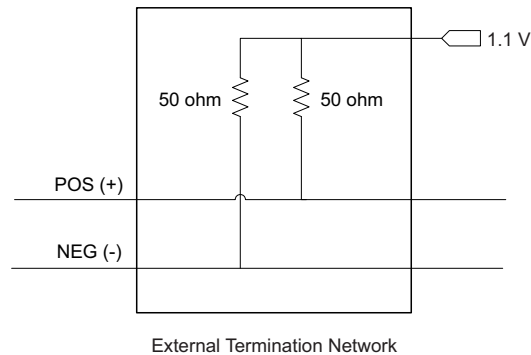

Figure 3. External Terminations: Receiver Has No Internal Terminations
- If the LVDS receiver includes neither the 100-Ω or biasing, use the external terminations shown in Figure 3